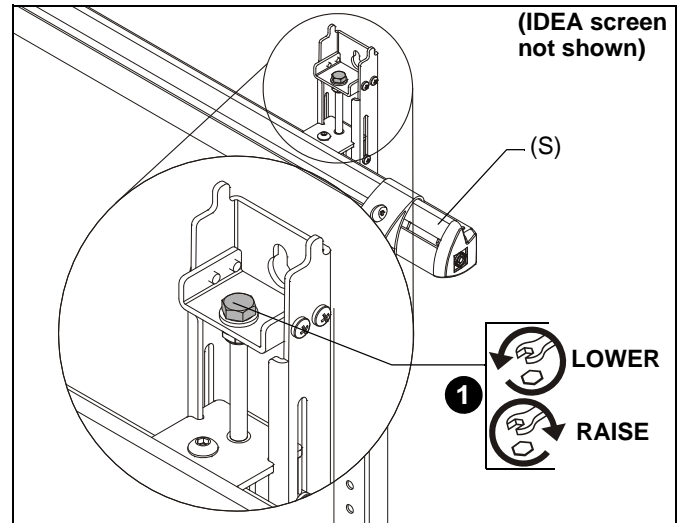

Figure 10
1. The wall assembly (S) can be adjusted or leveled by turning the hex head bolt in the brackets. (See Figure 10)